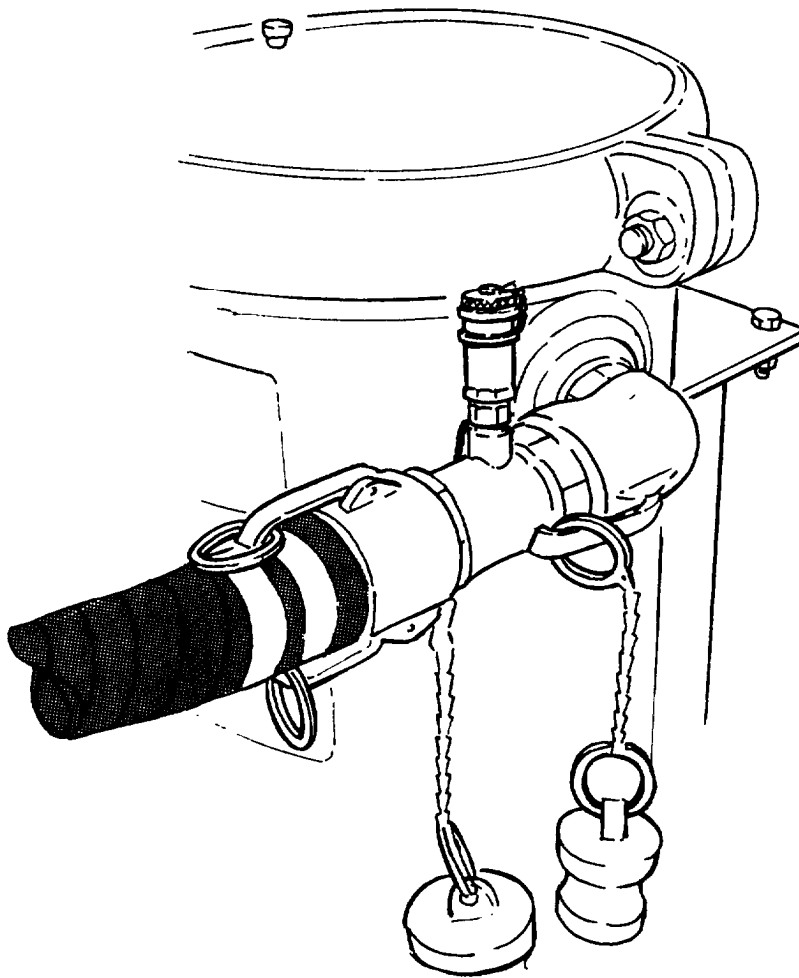

Figure 2-3. Adapter Probe, Water Detector Kit.
(3) The adapter for a water detector kit (figure 2-3) and probe is issued for use with the tank and pump unit. The kit with probe is to assist the operator in obtaining a fuel sample. The adapter with probe must be installed after the filter separator. The adapter will couple into the fuel line at the outlet of the filter separator without any additional adapters or modification.